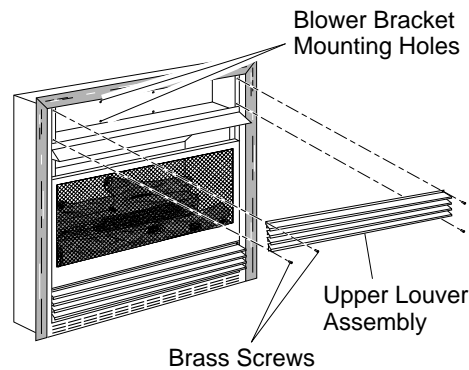
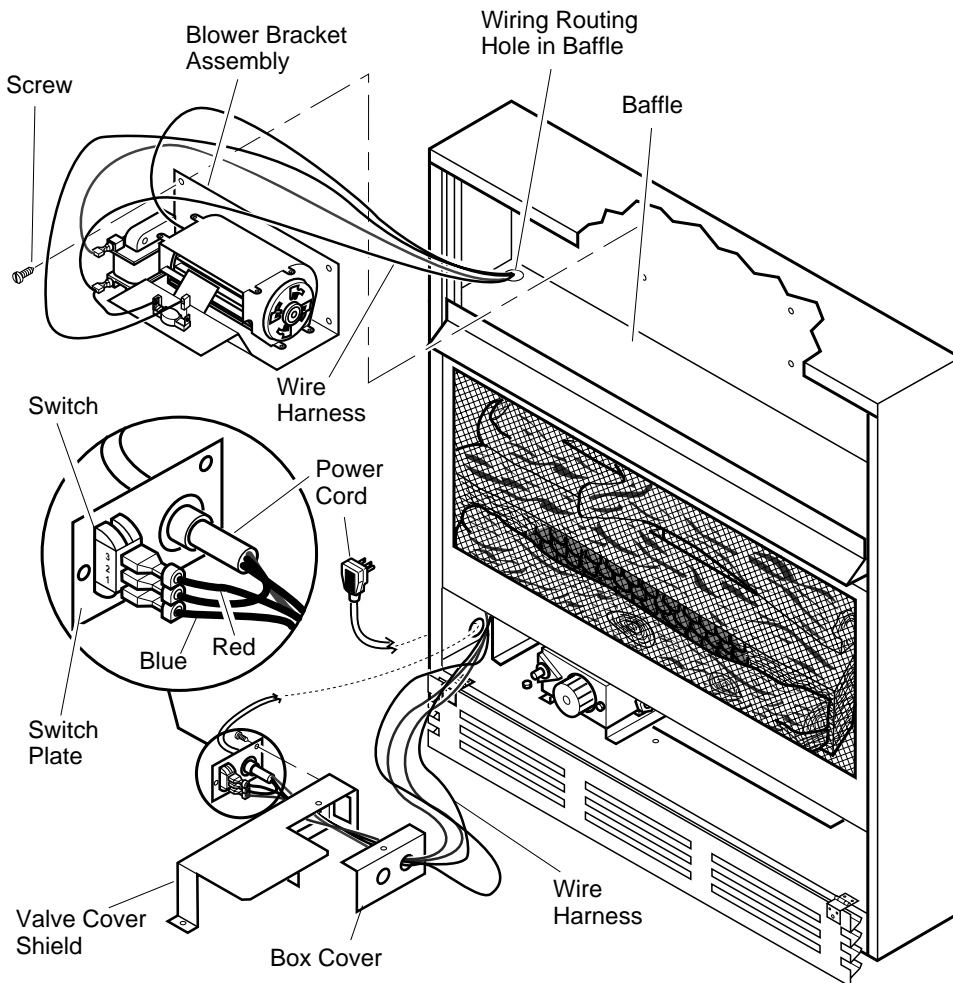
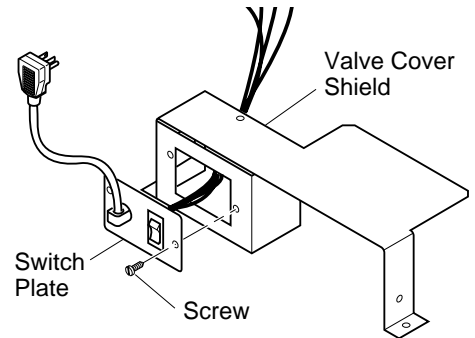

Figure 15 - Removing Upper Louver Assembly
Figure 17 - Installing Blower Bracket Assembly
Figure 18 - Installing Switch Plate to Valve Cover Shield
2. Remove 4 screws from louver assembly (see Figure 15). Save these screws.
3. Note the wire locations on back of AUTO/OFF/ON switch. The terminals on back of switch are numbered 1, 2, and 3. Carefully remove red wire from terminal 1 and blue wire from terminal 3. Black wire can remain on middle terminal 2 (see Figure 17, page 12).
- In top of the heater cabinet, locate the four mounting holes on the outer casing. Align these four holes with those on the blower bracket assembly. Attach blower bracket assembly to the outer casing with 4 #10 screws provided (see Figure 17).
- Route the wire harness through the hole in left side of baffle. Pull wire harness through lower opening above where the valve shield was removed. (see Figure 17).
- Insert the 4 wire harness into one of the round holes in the rear of the valve cover shield and through the rectangular hole in the front of shield (see Figure 17).
- Install the switch plate on the valve cover shield with 2 #10 screws provided (see Figure 18). Reinstall the valve cover shield. Route power cord out of the cabinet by inserting it through the bushing on the outer casing (see Figure 17). Plug fan kit into 120-Volt grounded power supply and test operation. **Note:** When switch is in the AUTO position, the fan will start after the heater has run for a few moments. The fan will continue to run for several moments after the heater has been turned off. When switch is in the ON position, the fan will run until turned to OFF. Reinstall upper louver assembly and hood if previously removed, (see Figure 15, page 11). Close lower louver door.
8. Reinstall upper louver assembly and hood if previously removed, (see Figure 15, page 11). Close lower louver door.